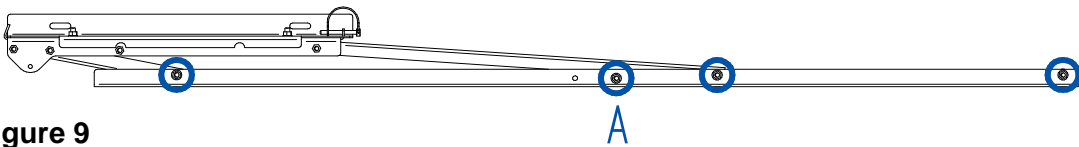
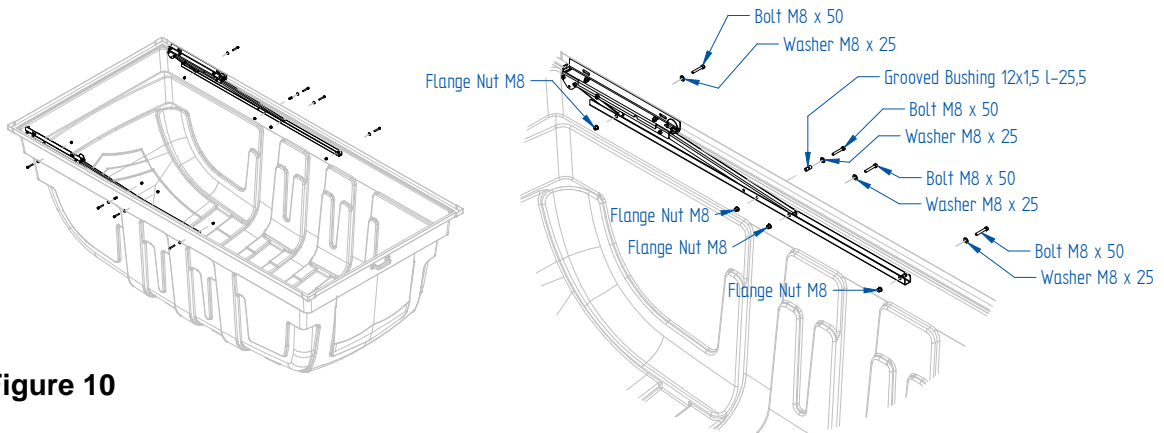

Figure 9
Figure 10
7.2. On **327 and 350 series**, fasten the **right** and **left** hinge to the plastic cover using M8x50 bolts + M8x25 washers + M8 flange nuts. At the position A, also install a bushing (**Figure 9**). Use washers under bolt head and flange nuts on the inside (**figures 10**)